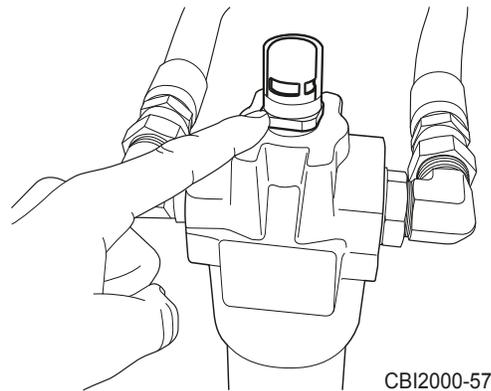

Figure 6.50 - Inspect Filter Indicator
2. Inspect Indicator - Inspect the indicator on the top of the filter housing (Figure 6.50). If the indicator is green, the filter is fine. If the indicator is red, the filter needs to be replaced.